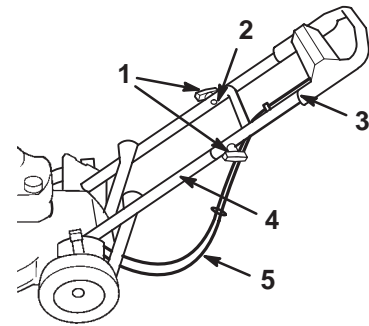

Figure 3
5. Slide the upper handle section ends over the lower handle section so that the sections nest together (Fig. 3).
6. Ensure that the cables are routed below and behind the lower handle section as illustrated in Figure 3.
7. Secure the upper handle section to the lower handle section using 2 contoured-handle bolts and 2 knobs (Fig. 3).